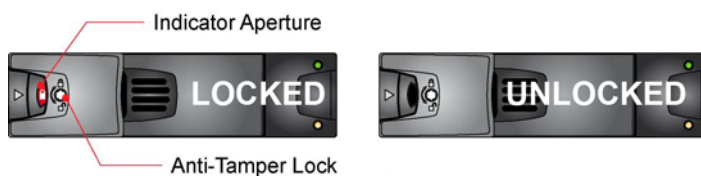

Figure 4-1 Activating the Anti-Tamper Lock
- 1 Carefully insert the key (a Torx T10 screwdriver provided with the appliance) into the anti-tamper lock in the handle (see Figure 4-1).